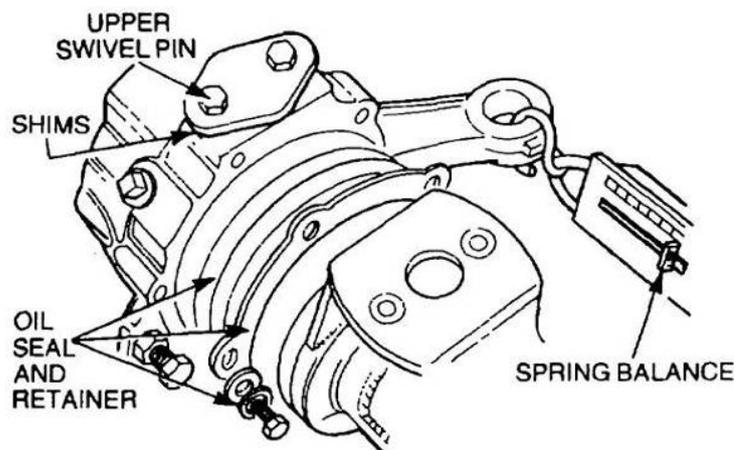

Figure 274 Measuring the Rotating Resistance
- e. Connect a spring balance to the steering arm ball joint eye and measure the resistance to rotation after the initial movement (Figure 274). The resistance must be 3.64 to 4.55 kg (8 to 10 lbs). Adjustment can be achieved by adding or subtracting shims installed under the upper swivel pin.